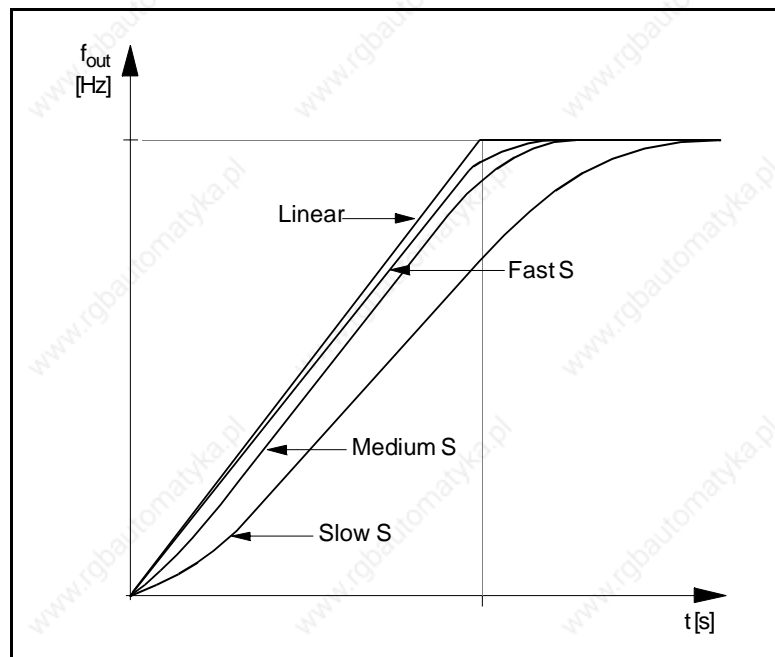

Figure 7-1 Acceleration/deceleration ramp shapes.
**RAMP** This parameter allows you to select the shape of the acceleration/deceleration ramp as shown in Figure 7-1. The available options are: